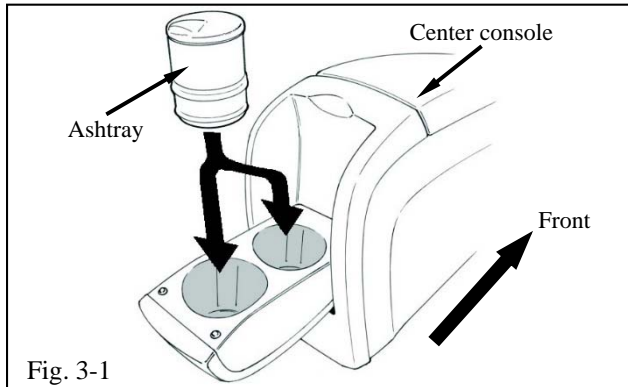

Fig. 3-1
- (a) Insert the ashtray into the rear cup holder of the center console. (Fig. 3-1)